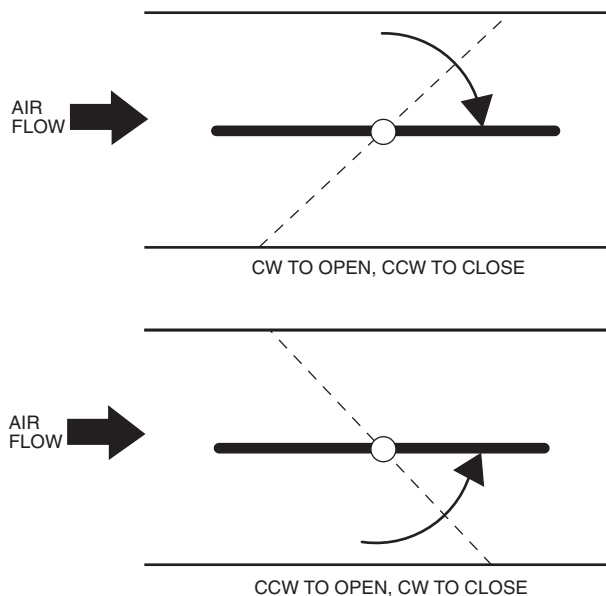

Fig. 7 — Damper Configuration
1. Visually inspect the damper and determine the direction in which the damper shaft moves to open the damper — clockwise (CW) or counterclockwise (CCW). Refer to Fig. 7.